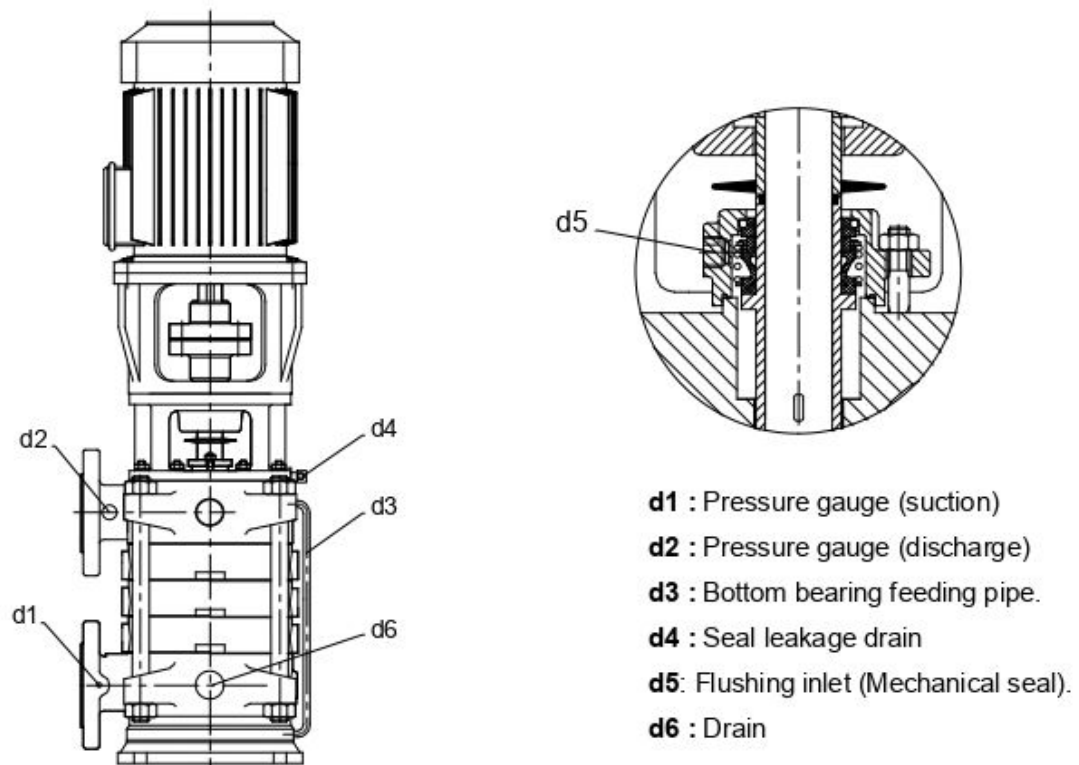

Fig. 6
- Every pump is fitted with connections on the pump casing to drain the pump and on the bearing bracket to evacuate the seal leakage from the stuffing box (**Fig. 6**). If required, the pump drain and seal leakage can be piped to a suitable reservoir. The pump draining piping must be fitted with an isolating valve and both must be suitable for the maximum operating pressure of the pump.
- Auxiliary piping must be connected only to the designated connections located on the pump (**See Fig. 6**).